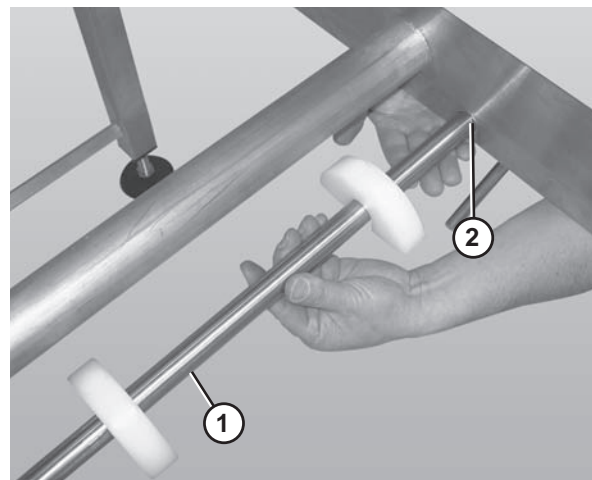

Figure 40
2. Slide the return shaft (Figure 40, item 1) up and through the large slot (Figure 40, item 2) in the frame (picture shown without the belt or wear strips).
3. Push up on the return shaft (Figure 40, item 1) and slide the notched end of the shaft through the small slot on the opposite side of the frame.